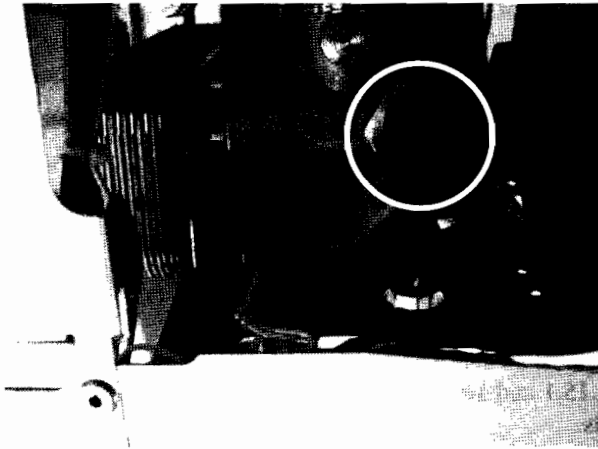

Figure 50
- ☐ Release the nut connecting the CH outlet connection to the hydroblock. (*figure 50*).